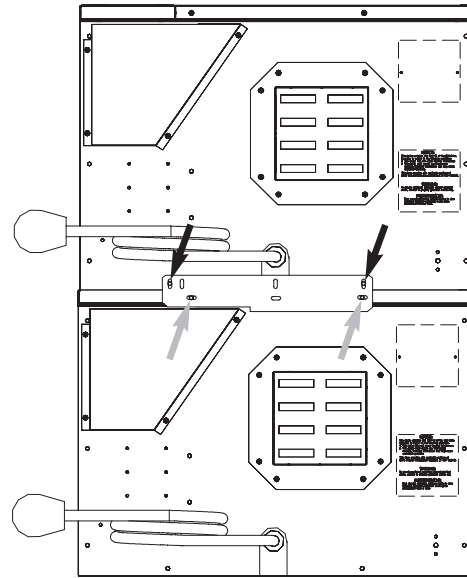

FIGURE 4: Double Stacking Ovens
### Double Stacking Ovens (Figure 4)
- a. Remove the screws marked with gray arrows in Figure 4.
**NOTE:** Orient the bracket as shown in Figure 4.
6. Remove the screws from the oven that will be placed on top, as marked with black arrows in Figure 4.